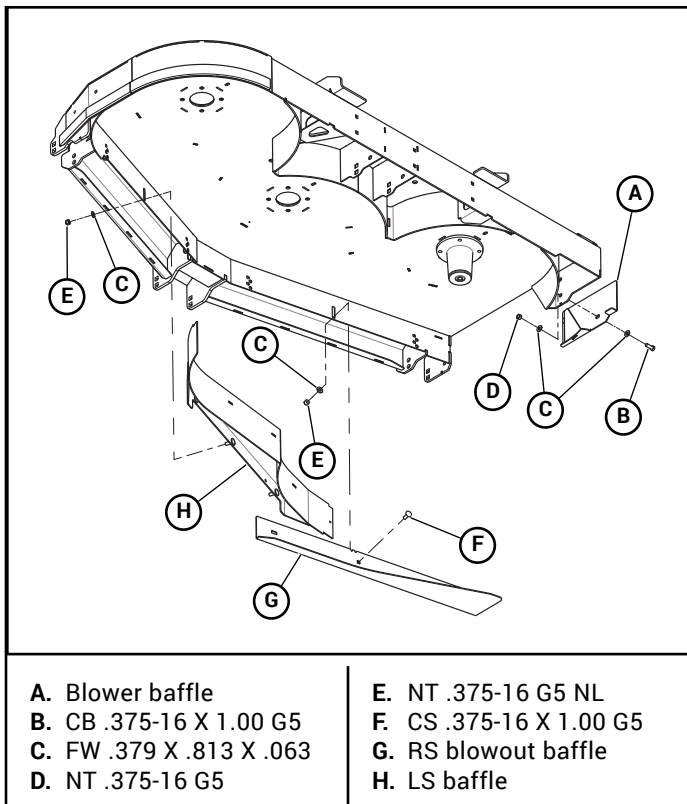

Figure 3-35
- Attach the deck blowout baffle to the underneath side of the deck. Figure 3-35
- Attach the blower baffle to the deck. Figure 3-35
- Before installing the LS Blower (Leaf) Baffle, Ref. H, refer to the Operation section of this manual for detailed information on the installation and use of the LS Blower (Leaf) Baffle. Figure 3-35.